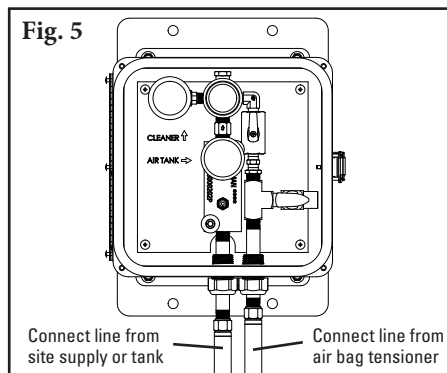

Fig. 5
#### Turn the adjustment nut until the correct spring compression is reached (Fig. 5).
5. **Connect the supply lines and set tension pressure.** With the parts supplied, attach a line to each air bag and run the lines to the outlet side of the control box (Fig. 5).
5. **Reassemble the SAT XD Tensioner.** Remove three screws from air bag support plate (Fig. 4a). Turn the threaded insert into the support plate. Also turn part of the threaded insert into the hole on pole mount (Fig. 4b). Ensure 6 mm (1/4") of threaded insert is still exposed, then turn the air bag onto the threaded insert and tighten (Fig. 5).